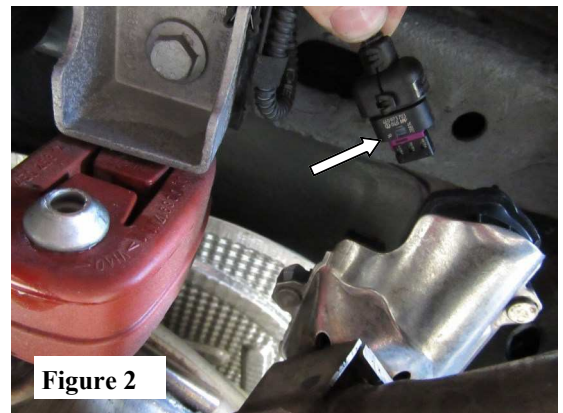

Figure 2
3. Locate and disconnect (2) electrical connection from right-hand and left-hand from tail pipe valve. (See Fig. 2)